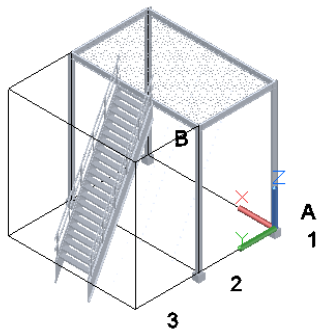

Figure 3-47 Railing added to the stairs
2. Select the stairs; a railing is added to the stairs, as shown in Figure 3-47. Next, you need to add railing to the beams.